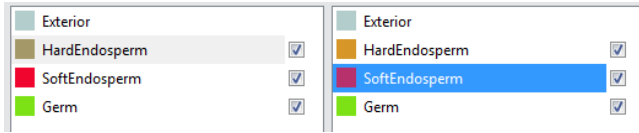

Figure 18.26: Contact Mode
- *Contact*: The contact mode allows selecting interfaces between two materials. Select the two materials from the materials list (Figure 18.26).